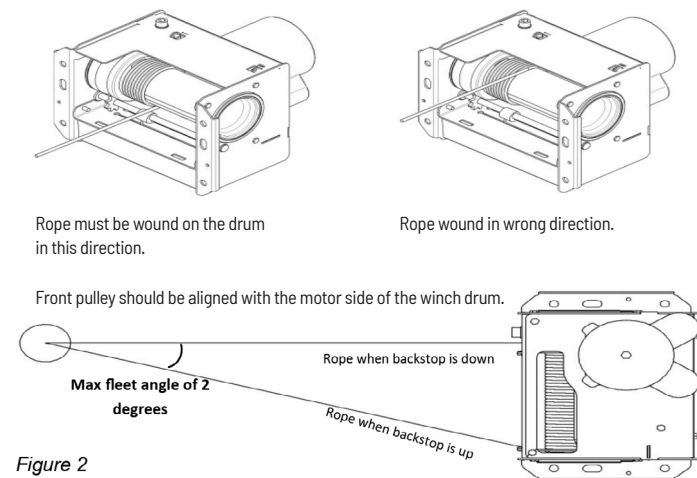

Figure 2
## WIRE ROPE INSTALLATION (SEE FIG. 2)
6. **A)** The cable can now be reeved over directional pulleys and down to the mast as per the backstop manufacturer's recommendations. At the starting side of the drum, the rope must exit perpendicular to the winch (0° fleet angle) as it travels to the head pulley (see Fig. 2)